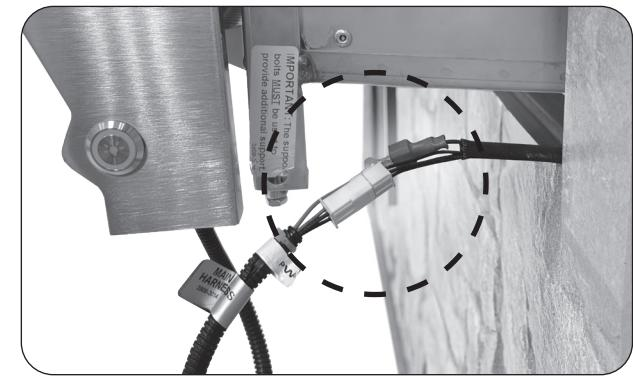

Fig. 29-1 Connect harnesses
2. Carefully slide the unit PARTIALLY (slightly more than halfway) into the enclosure cutout and connect the harness extension to the harness coming from the unit. See Fig. 29-1.